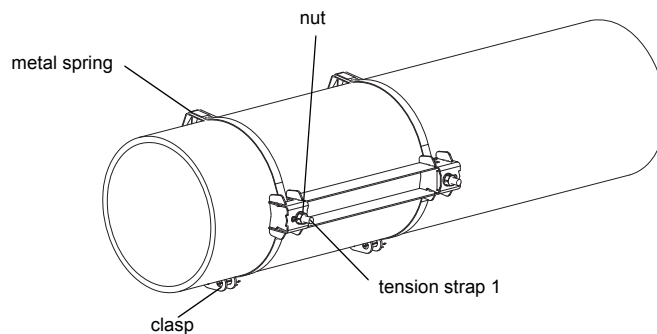
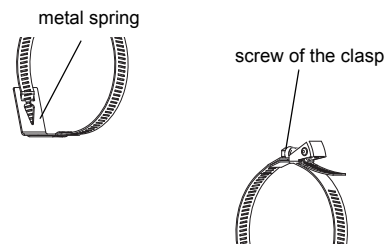

Fig. 8.18: Rail on the pipe
Fig. 8.20: Tension strap with quick release clasp and metal spring
- Insert the tension strap into tension strap clamp 1 (see Fig. 8.18).
- Tighten the nut of tension strap clamp 1, but not too firmly in order not to damage the tension strap (see Fig. 8.18).
- Insert the tension strap into tension strap clamp 1 and the metal spring (see Fig. 8.20 and Fig. 8.18).
- Insert the tension strap into tension strap clamp 1 and the metal spring (see Fig. 8.18 and Fig. 8.21). It is not necessary to mount the metal spring: